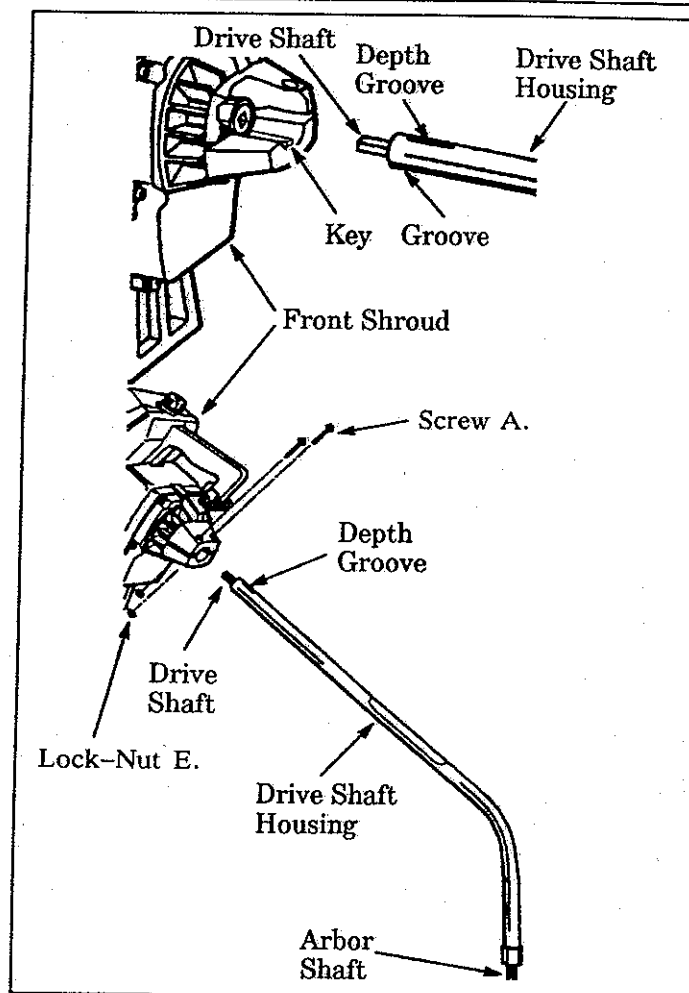

Figure 2
1. DRIVE SHAFT HOUSING (Figure 2)
- Place the two Screws "A." into the holes on the Front Shroud as shown in Figure 2.
- Firmly push the Drive Shaft Housing into the Front Shroud opening until the Depth Groove is no longer visible (about 1-1/2 inches). Figure 2.
- Tighten Screws "A." alternately with the small hex wrench until secure. Figure 2.